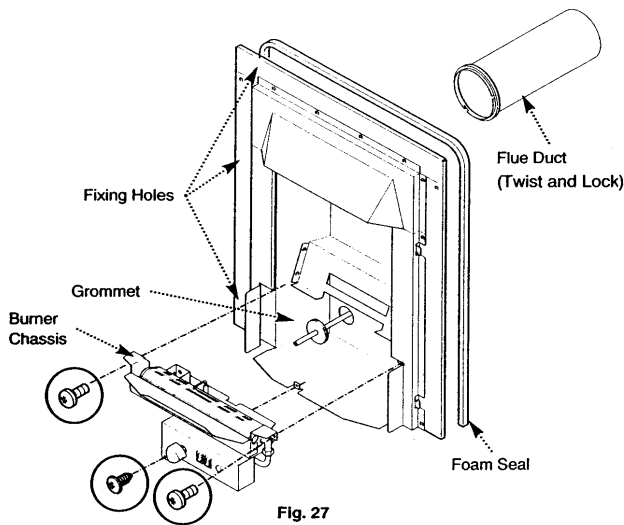

Fig. 27
2. Either mark the wall as shown (Fig. 26) and drill, plug and fit the 4 eyebolts (Fig. 25) or mark the front face of the surround using the fire as a template and drill and plug the 4 holes, 2 at each side. The top 3 holes may also be used if required to ensure a good seal between the fire and the surround (Fig. 27).
4. Take the foam seal from the kit and remove its backing strip. Fit it to the rear of the fire frame (Fig. 27).
8. Undo the 3 screws retaining the burner chassis to the combustion box sides and base. Withdraw the chassis and place to one side (Fig. 27).
9. Remove and cut the left hand side grommet to accept the gas supply (Fig. 27).